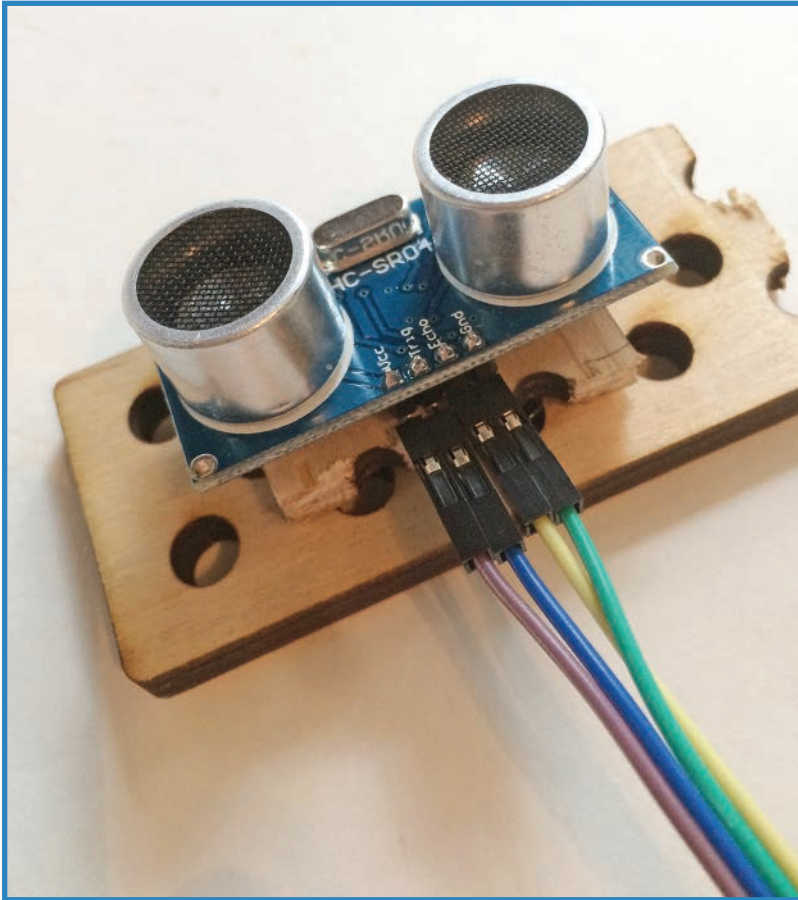

FIGURE 13.24 Assemble the ultrasonic sensor's mount.
15. Assemble the ultrasonic sensor's mount. This advanced system, shown in Figure 13.24, consists of a piece of wood with the sensor attached to it with double-sided tape. While you're at it, attach wires to the sensor's four leads. The wood is 1.5" by 3", thus allowing it to fit inside the channel once installed.